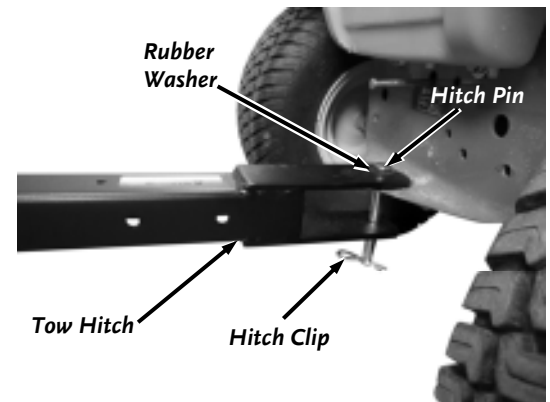

Figure 64
1. Make sure you firmly attach the DR PILOT™ LEAF and LAWN VACUUM Hitch to your Lawn Tractor using the Hitch Pin and Hitch Clip (**Figure 64**).